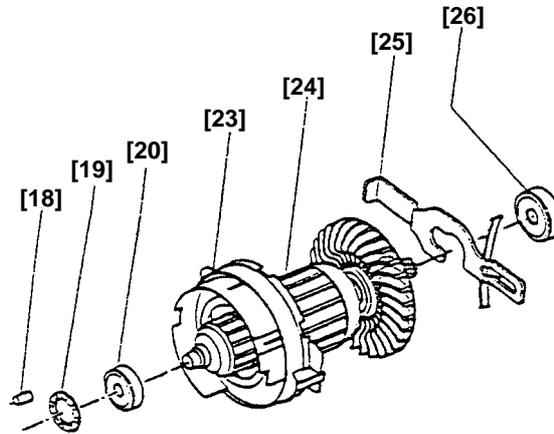

Fig. 5
(5) Removing the Armature [24] (Fig. 5)